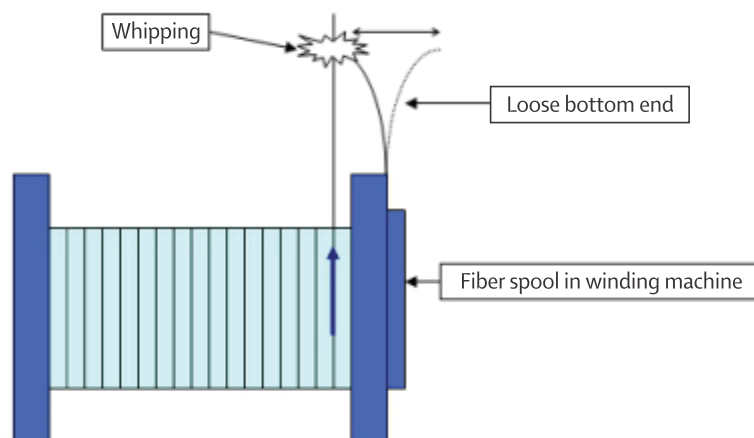

Figure 5
2. Unattached inner end of fiber on rotating spool: The fiber becomes unfastened and flails. The free end can come into contact with the fiber either already wound on the spool or being wound onto the spool. (Figure 5).